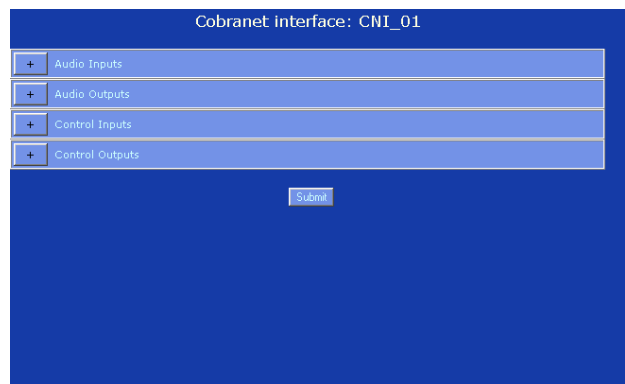

figure 34.39: Configure CobraNet interface step 2
- 2 Click the name of the CobraNet interface that must be configured. A screen similar to the one in figure 34.39 appears in the main frame of the web interface.